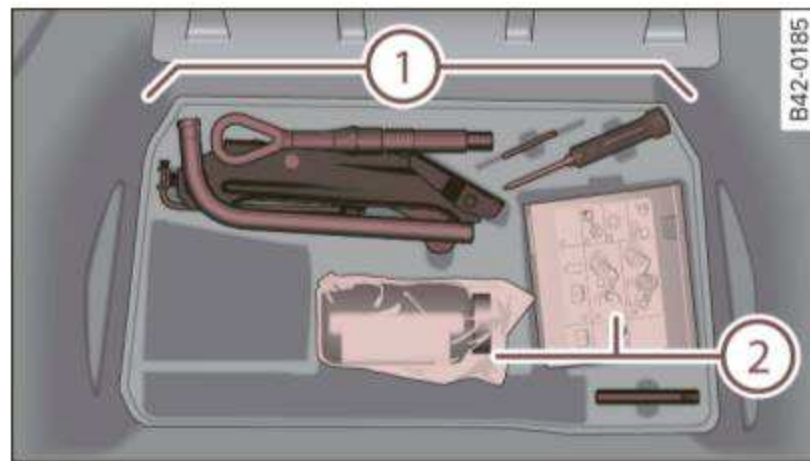

Fig. 127 Breakdown kit in luggage compartment
- Take the **sealant bottle** and the **electric air pump** from the luggage compartment under the floor ⇒ *page 224*, fig. 127.